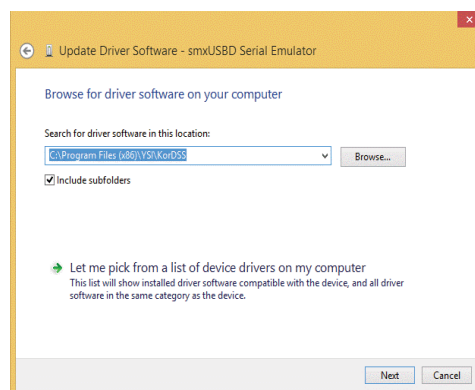

Figure 83 Driver location Windows 8/8.1
11. Click **Browse**, then navigate to the file location: **C:\Program Files (x86)\YSI\KorDSS** for 64 bit systems or **C:\Program Files\YSI\KorDSS** for 32 bit systems (Figure 83). Click **Next**.